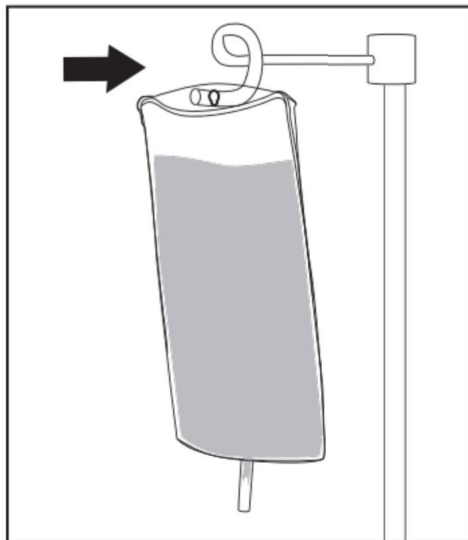

Figure 3. Hang the saline bag on IV pole.
4. Plug the power cord from the Generator into an electrical outlet (**Figure 3**).
2. Hang bag on an IV pole (**Figure 3**).